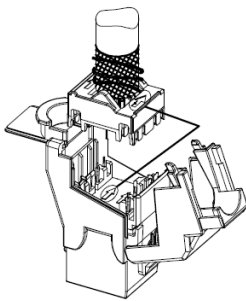

Fig. 11
- 1) Put the cap on the IDC tower. The arrows on the jack and the cap should face the same direction. Put the cap into position (Fig. 11)